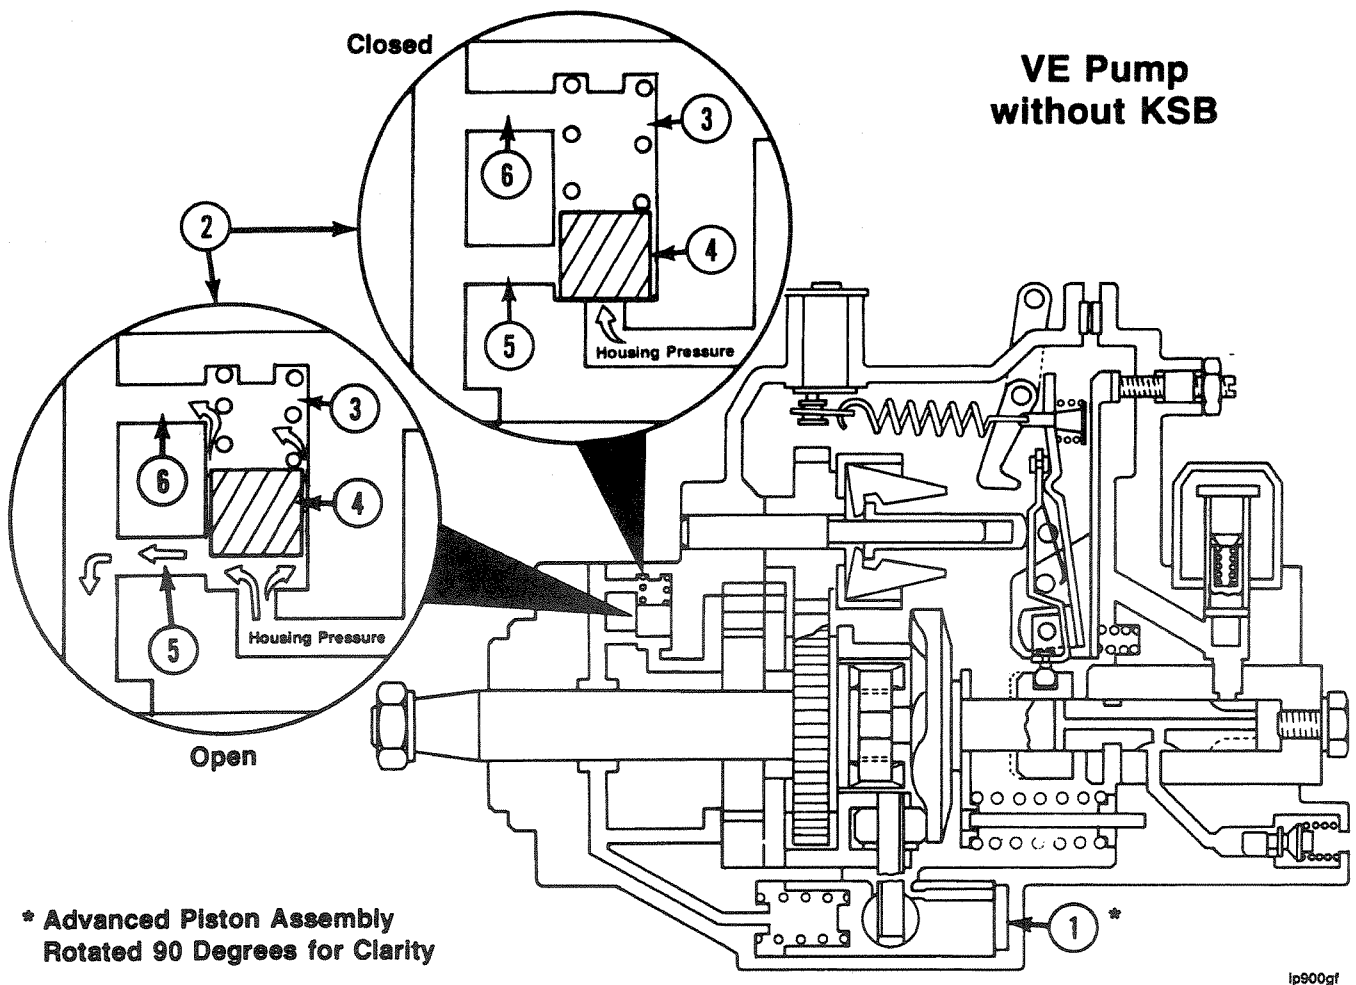
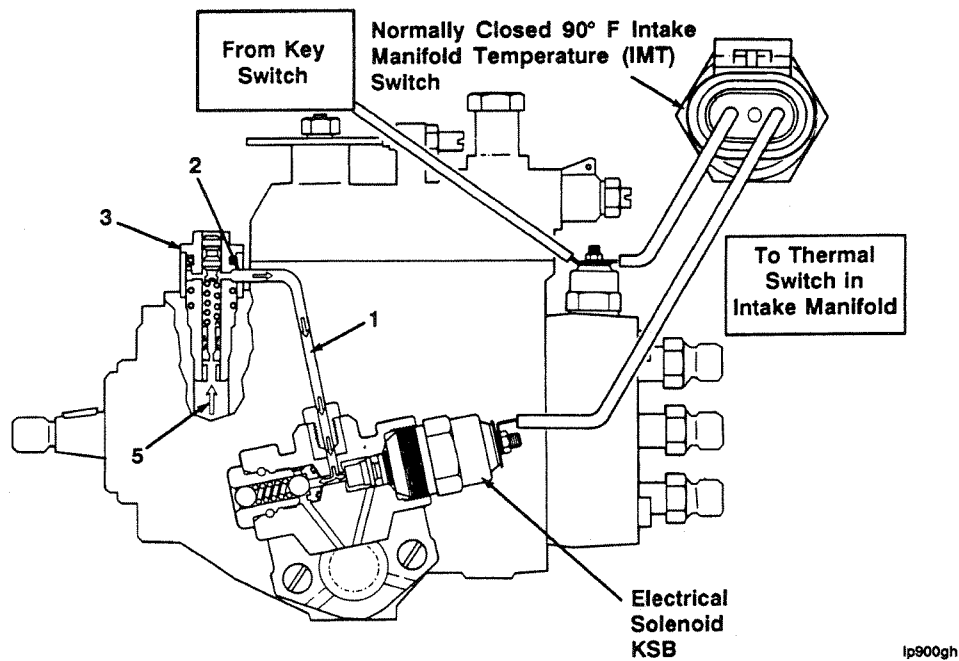

Figure 1, VE pump timing, regulated by opening and closing the pressure regulator valve.
Figure 2: Bosch VE Fuel Pump With Electrical Solenoid KSB
Pump housing pressure acts on an internal timing piston (1), Figure 1, to partially advance the injection timing at idle, and fully advance the timing when the engine RPM reaches approximately 60% of rated speed. As pump pressure increases, timing advances.
The KSB introduces a new fuel line (1), Figure 2, which routes fuel from the relief port (2) of the pressure regulator valve (3) to the plunger end (6), Figure 3, of the electrical solenoid, bypassing the normal return passage (6), Figure 1.
With the key switch on, current flows from the key switch line to the 90°F normally closed intake manifold switch to the 12V electrical KSB solenoid (see Figure 2). When the engine starts, the pressure regulating valve (3) attempts to regulate fuel pressure as before (without KSB) but the fuel from the relief port (2) now meets a 'dead end' at the plunger of the KSB solenoid (6), Figure 3. With the key switch on, the plunger moves outward and closes off the flow path of the fuel (8), Figure 3. This action hydraulically locks (closes) the pressure regulator slider valve (4), Figure 1.
Housing pressure (5), Figure 2, is not regulated because the pressure regulator valve (3) is inoperable and so the pressure continues to increase. This action fully advances the timing. The timing remains fully advanced until the plunger (6), Figure 3, is opened and fuel is allowed to drain through fuel drain flow path (8), Figure 3.